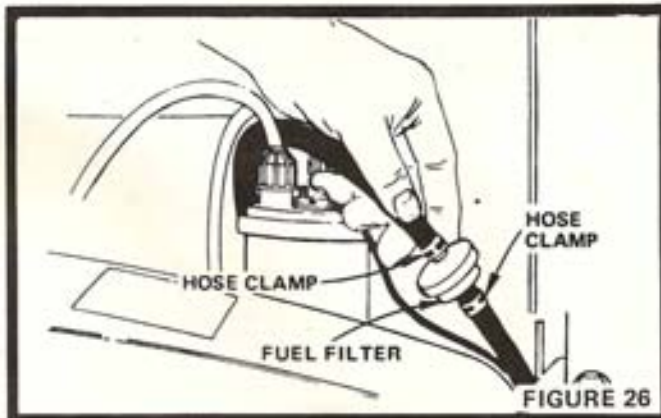

FIGURE 26
- With Engine cool, remove and plug Fuel Line Sections as removed from both ends of Fuel Filter (Fig. 26).
Remove and replace (Fig. 26)